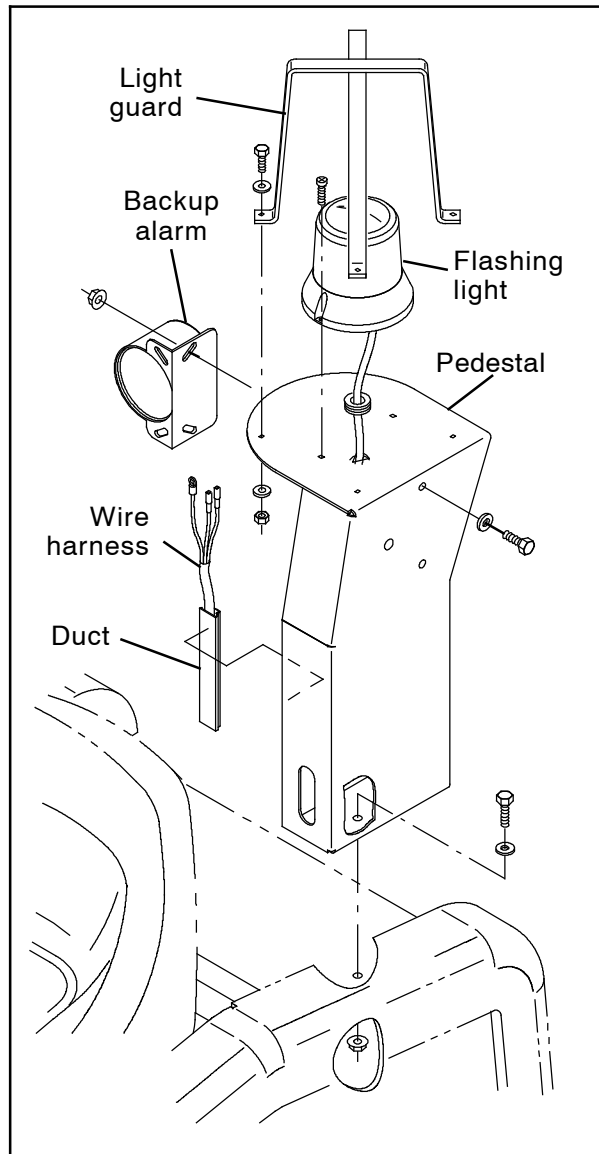

**FIG. 11**
10. Use three M8 pan screws (4), three M8 fender washers (5), and three M8 hex nuts (6) to install the front cover spotlight mounting bracket (3) onto the front shroud. (Fig. 11)
11. Remove the hex nut included with one of the blue LED spotlights (1) from the light. (Fig. 11)
12. Use the hex nut removed from the blue LED spotlight (1) in the previous step and a lock washer (2) to install the blue LED spotlight onto the front cover spotlight mounting bracket (3). (Fig. 11)
13. Remove the nut from the sealed chord grip on the 67 in. blue spotlight harness (7). (Fig. 11)
14. Route the 67 in. blue spotlight harness (7) connector to be connected to the blue LED spotlight (1) installed on the front shroud through the 0.886 in. (22.5 mm) hole previously drilled into the front shroud. (Fig. 11)
15. Connect the 67 in. blue spotlight harness (7) to the blue LED spotlight (1) installed on the front shroud. (Fig. 11)
16. Use the sealed chord grip/nut on the blue spotlight harness (7) to secure the harness to the front shroud. (Fig. 11)
38. Connect the 67 in. blue spotlight harness (7) to the blue spotlight harness (17) Signal Power 1. (Fig. 22/Fig. 19/Fig. 11)
39. Use cable ties to secure the 67 in. blue spotlight harness (7) blue spotlight harness (17) Signal Power 1 lead to the main wire harness so both harnesses are off the floor and away from any moving parts. (Fig. 22/ Fig. 11)